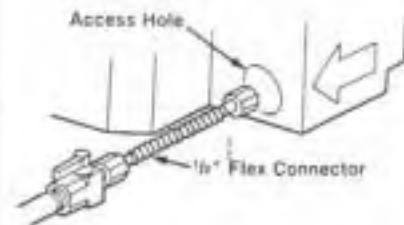

Figure 13
Step 4: Position the fireplace in front of the prepared enclosure opening. Lift the fireplace and reset the rear portion of the lower front framing plate. Insert the end of the flex connection into the rear hole of the fireplace (Figure 13).